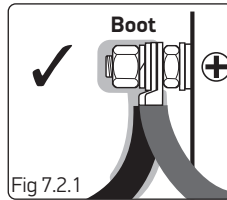
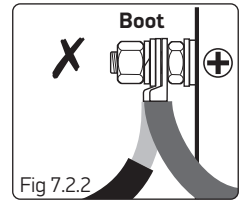

Fig 7.2.1
Fig 7.2.2
- ▶ Correct installation. Supplied cable boots are used and no bare wires exposed (Fig 7.2.1).
- ▶ Live wire exposed! (Fig. 7.2.2). Correct the cable installation to match (Fig 7.2.1).